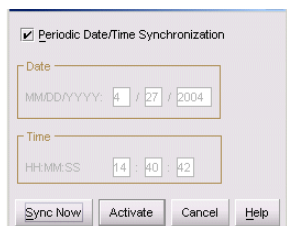

Figure 43: Configure Date and Time dialog box (Periodic Synchronization options)
1. At the Configure Date and Time dialog box, click the **Periodic Date/Time Synchronization** check box. The **Date** and **Time** fields are grayed-out and not selectable, as shown in Figure 43.